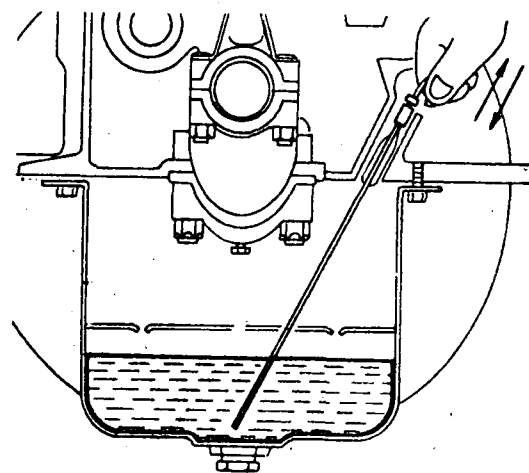

Fig. 1
- b) Check the oil level by means of the dipstick (fig. 1).